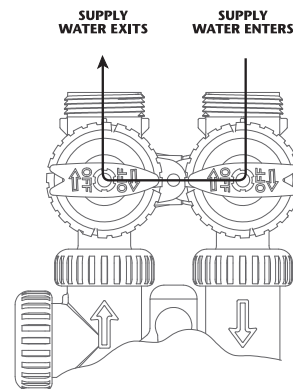

Figure 2
2. **BYPASS POSITION:** The inlet and outlet handles point to the center of the bypass. The system is isolated from the water pressure in the plumbing system. Untreated water is supplied to the building (**Fig. 2**).
- After installation is complete, rotate bypass handles to bypass mode (*see Fig.2 on page 4*).
1. With the softener in the bypass mode (*Fig. 2 on page 4*) and the control valve in normal operation where the display shows either the time of day or the gallons remaining, manually add 3" of water to the regenerant tank.